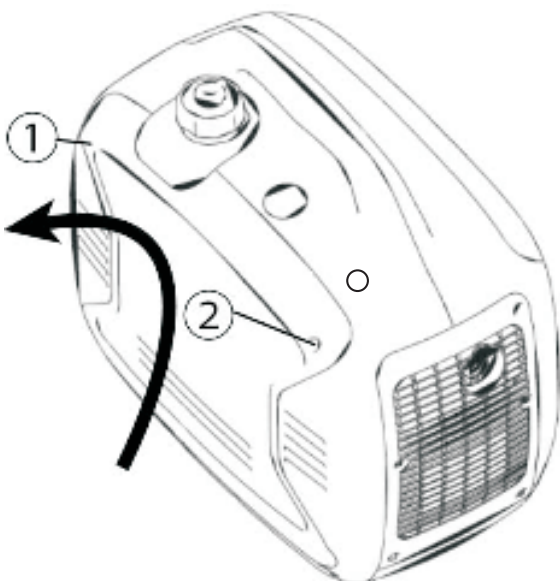

Figure 1
UNIT(Figure1).
Using a #2 Phillips-head screwdriver remove screws ① and ② (seen in figure 1) and lift up and away to remove the side panel.